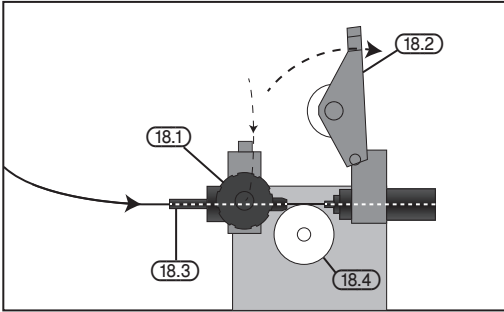

FIG. 1
7.4 INSTALLING THE FILLER WIRE (MIG WELDER) – FIGS. 1 - 4